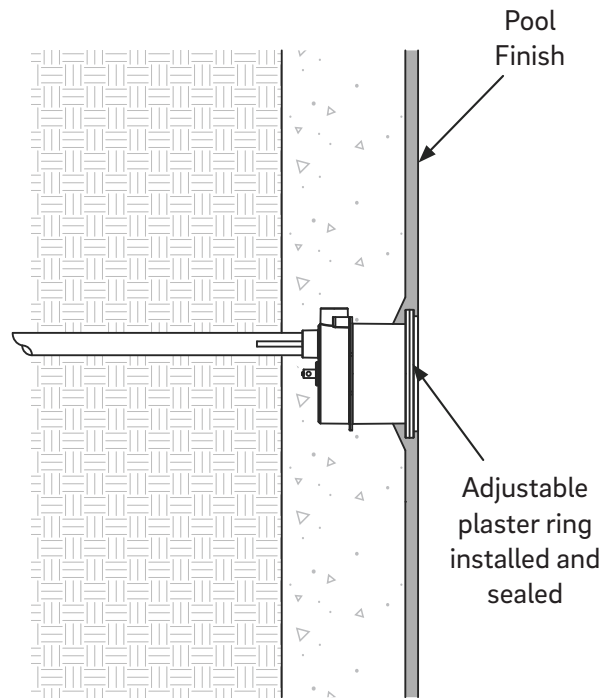

Figure 6
1. Before applying the pool's finish, the gunite shield must be removed. Using PVC glue or construction adhesive, secure the adjustable plaster ring with the integrated waterstop to the inside the QuikBrite's niche. Make sure that proper depth and alignment are maintained so that the pool's finish will be flush with the front face of the adjustable plaster ring (Figure 6). Place the plaster cap into the adjustable plaster ring to avoid debris from entering while applying the finish.